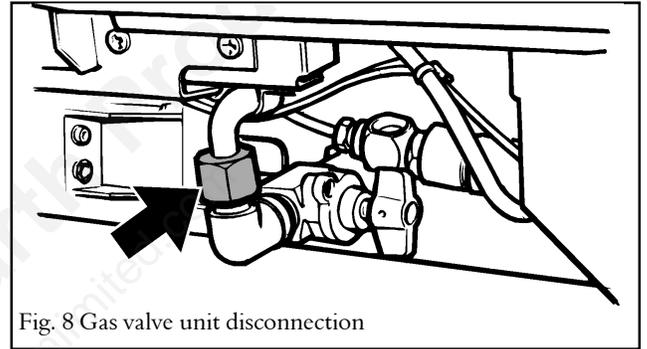

Fig. 8 Gas valve unit disconnection
7.2 Detach the gas valve and connector unit from the regulator inlet pipe (see figure 8). Keep the unit safe.